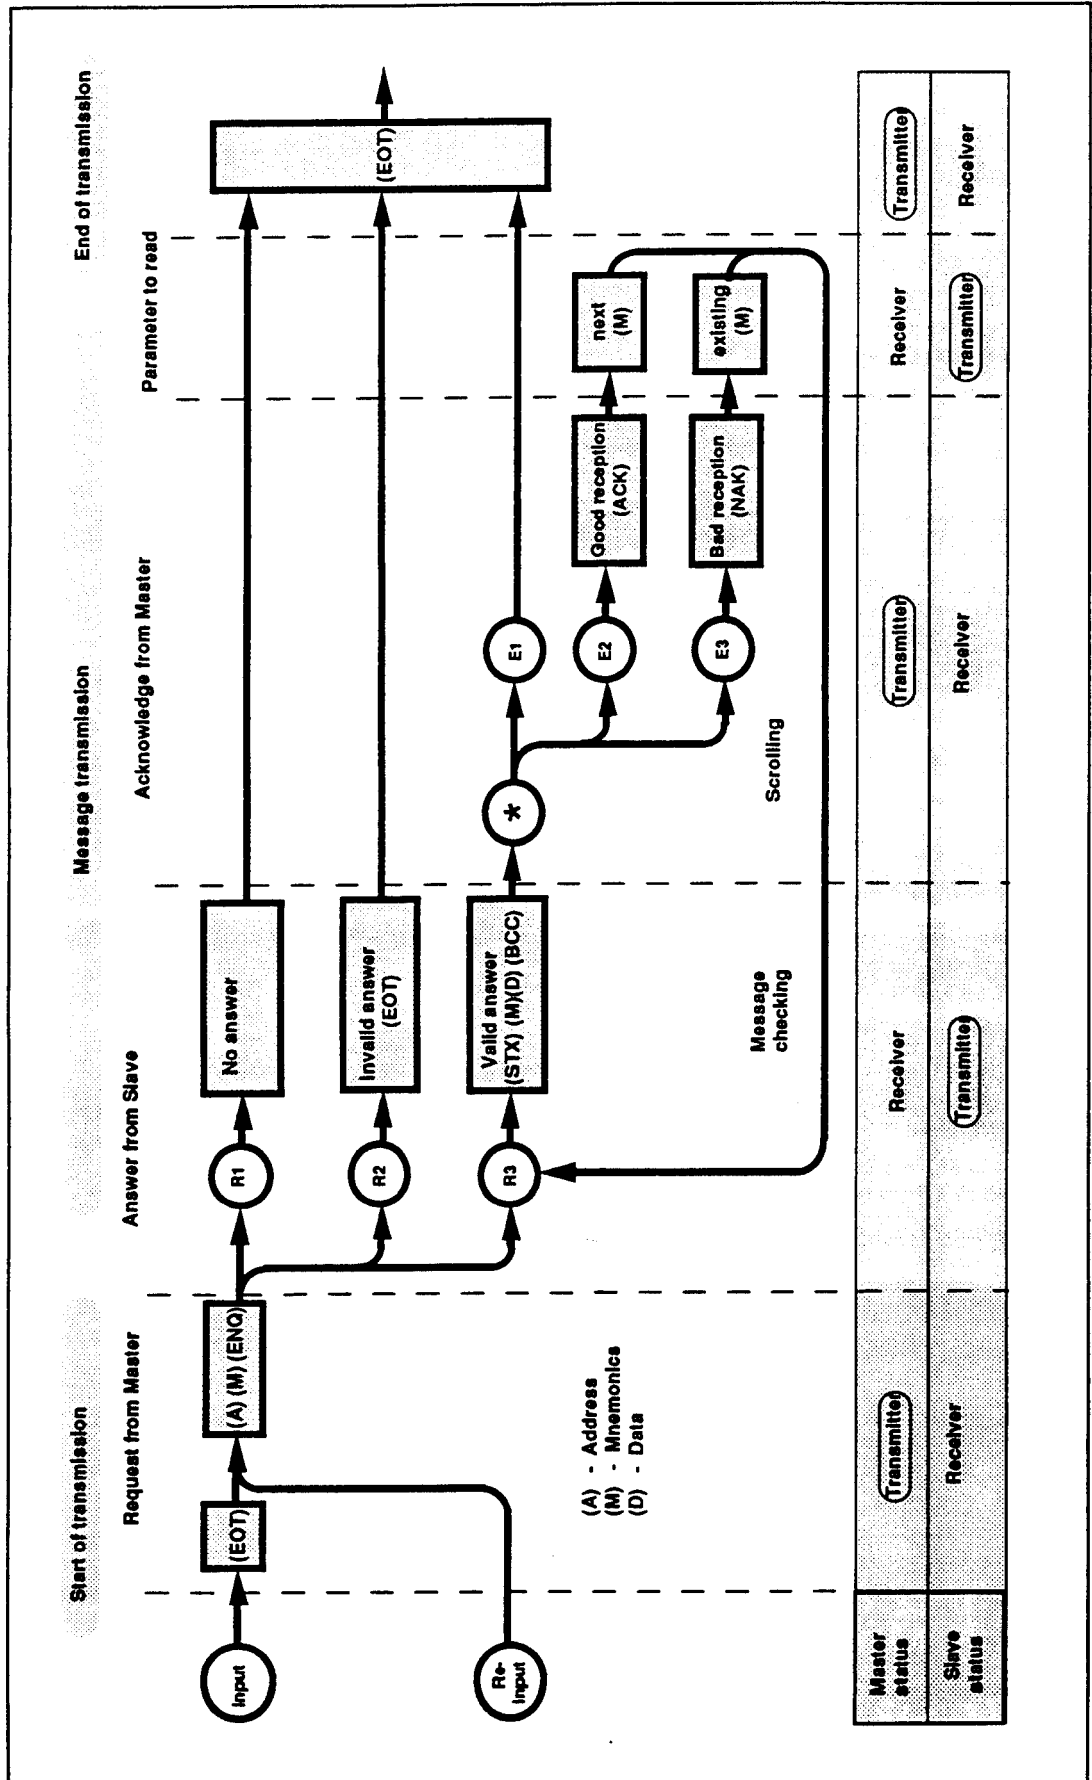

Figure 2-1 Data read procedure
The data item reading procedure is shown in figure 2-1.
First, the Supervisor is in the transmitting position (see figure 2-1) and sends an 8-character message which identifies:
After the Supervisor has sent the ENQ character, the protocol describes the message transfer procedure which can be divided into three phases (see figure 2-1) :
After the communication establishment procedure, the Unit can answer in three possible ways (marked R1 to R3 on figure 2-1) :
In this case, the Unit sends the EOT character to end the communication (see figure 2-1). The Supervisor becomes the transmitter again and can start another reading sequence or select another Unit.
At the point marked by an asterisk (*) in figure 2-1, the Supervisor ignores all the characters sent on the bus. The Unit stays in this state as long as the Supervisor has not sent one of the three following sequences (marked E1 to E3 in figure 2-1):
After the message transfer procedure, the Unit interface can end the sequence directly and stop the digital communications (see figure 2-1).
- the Unit does not respond to the reading (RI in figure 2-1),
- the Unit responds with EOT (end of transmission, reply R2 in figure 2-1) during the message transfer phase.
The interface can end the sequence itself with EOT (sequence E1 in figure 2-1).